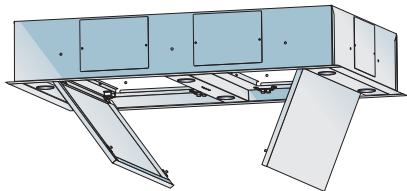

Figure 3
- * Open the split-extraction sheet of the device and remove the filter (Figures 3 & 4).